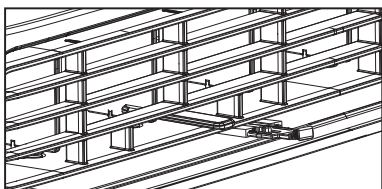

Figure 2 (FRESH AIR)
2. Draw fresh air into the room - Fresh Air (see Fig. 2)